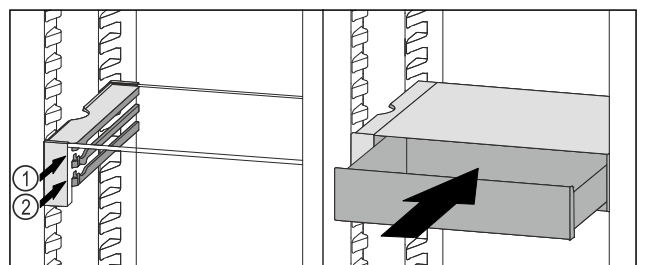

Fig. 80
- ▶ Place the VarioSafe drawer behind the stoppers on desired rib Fig. 80 (1) or Fig. 80 (2).